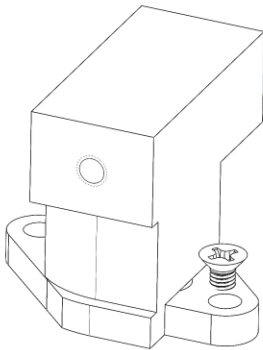

Figure 10 (A00282 & A00286)
3. Locate all assembly keys and brackets. Verify that the correct quantity and type of keys and brackets have been supplied for each joint type in your unit. See Figures 10, 11, and 12 below for a magnified view of each joint type and the associated hardware. Vertical T-bars meeting the perimeter frame will require a wind load bracket at each end of each vertical T-bar (A00282 and A00286). Horizontal T-bars will utilize two different brackets, one for when the horizontal bar meets a vertical T-bar (A00530), and a second for when the horizontal T-bar meets the perimeter frame (A00280 and A00281). Part A00530 should be pre-installed into the horizontal T-bars prior to assembly using #10x3/4" screws.